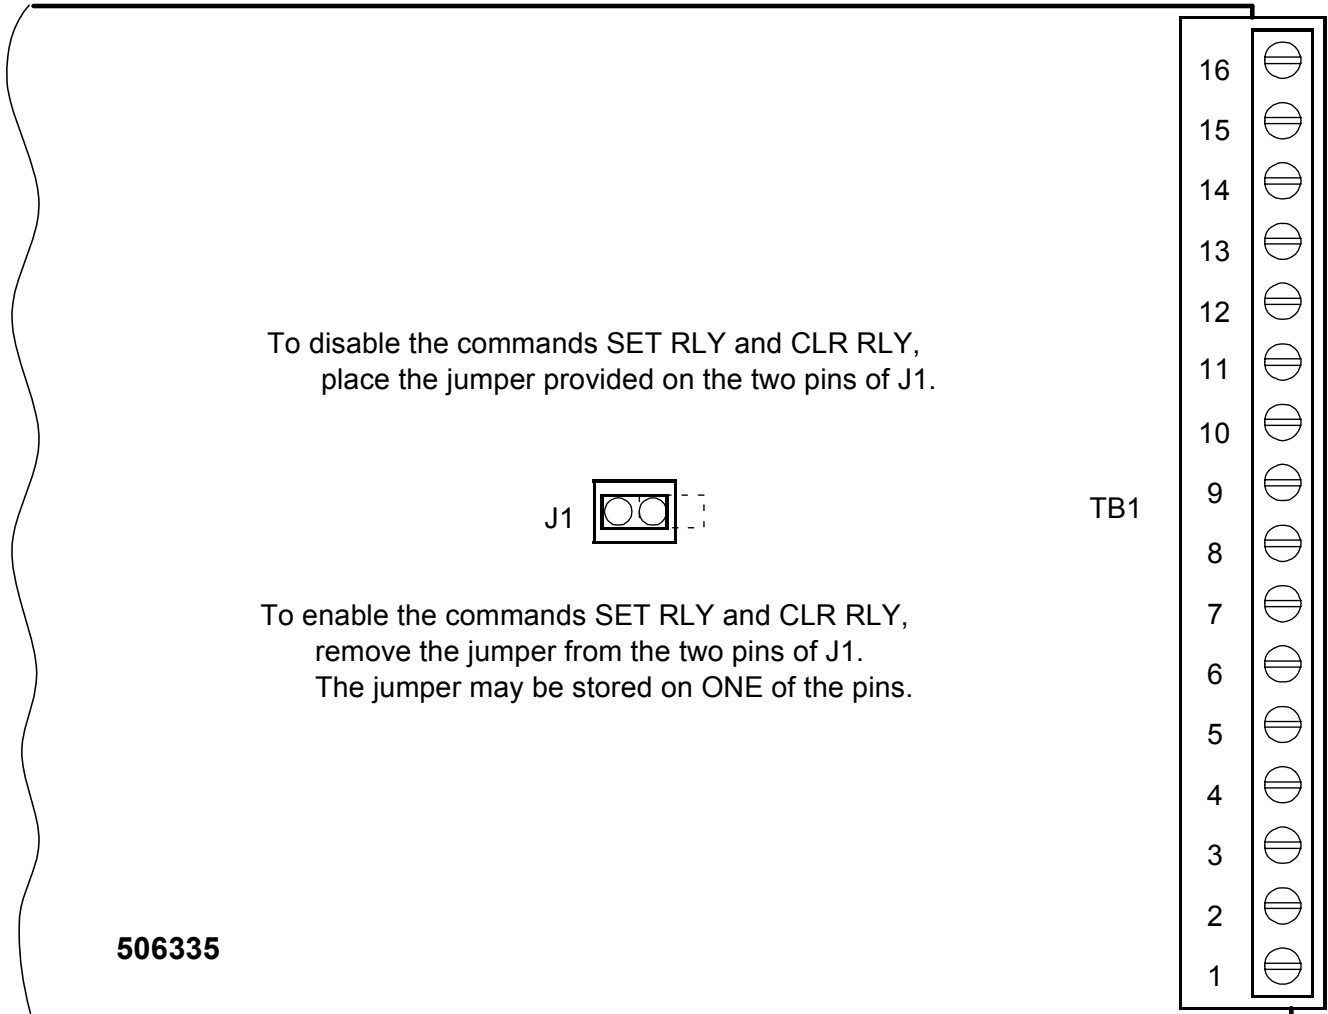

Figure 2-6
- a) A jumper is provided on the four output (Form-C) relay circuit card. The placement of this jumper enables or disables the commands SET RLY (Set Relay) and CLR RLY (Clear Relay). Refer to Figure 2-6 and set this jumper per site requirements.